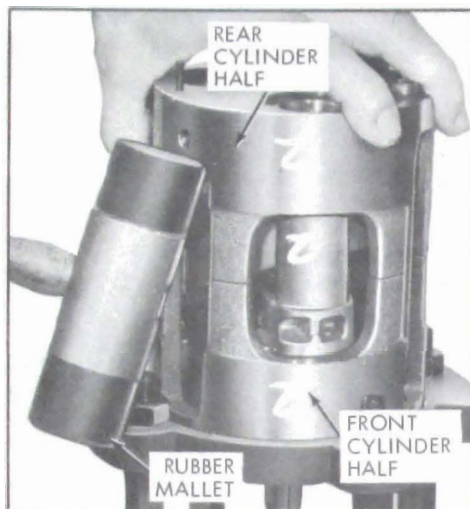

Figure 11-68—Separating Cylinder Halves
2. Place cylinder assembly in fixture as shown in Figure 11-68.
5. Separate front and rear cylinder halves, using a wood block or rubber mallet. See Figure 11-68. Rotate swash plate so that discharge tube does not contact it. A 9/16" open end wrench may be used on the shaft seal area of shaft to rotate swash plate.